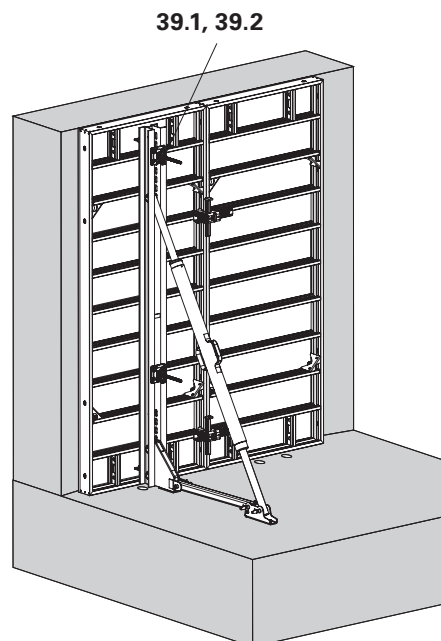

Fig. D4.02
3. Remove Wingnut Pivot Plate (39.2) and Hook Tie DW 15 (39.1) (Fig. D4.02).
- DOMINO and Anchor Bracket SB-L. (Fig. D4.02 + D4.02a)